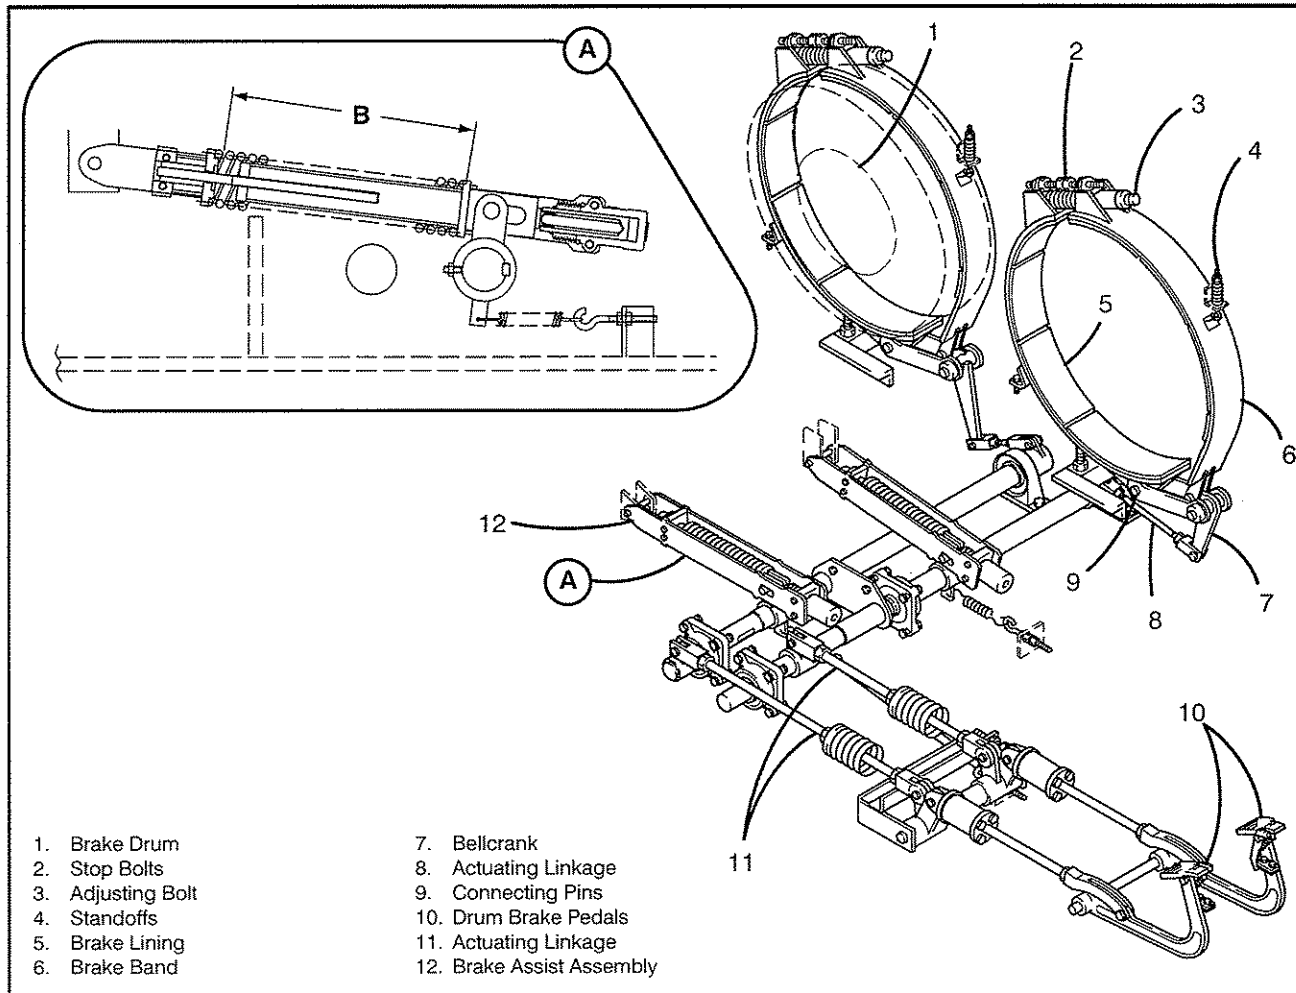

Figure 3-2
5. Beginning at the winch drum brake pedal in the operator's cab, check all the brake linkage up to the band brake bellcrank for proper lubrication of pin connections, smoothness of operation, and tightness of linkage. Lubricate, tighten, or replace as required. Refer to Figure 3-2.
4. Inspect all actuating linkage and related pins for excessive wear and proper lubrication. Refer to Figure 3-2.
6. Disconnect the brake bands from the standoffs and loosen the stop bolts and adjusting bolt. Refer to Figure 3-2.